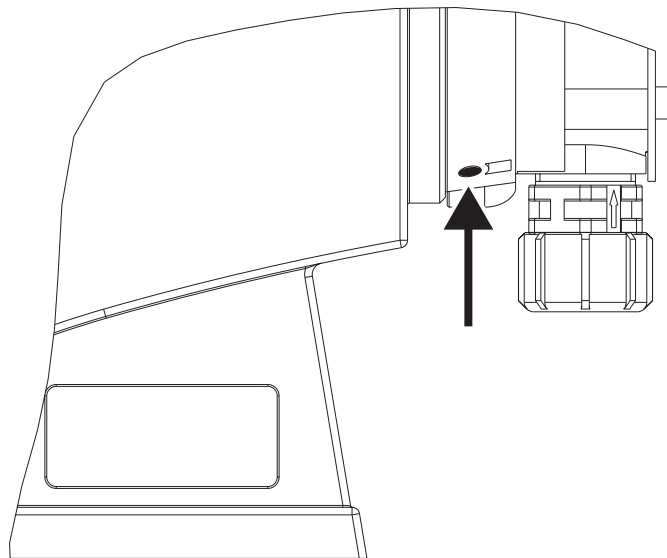
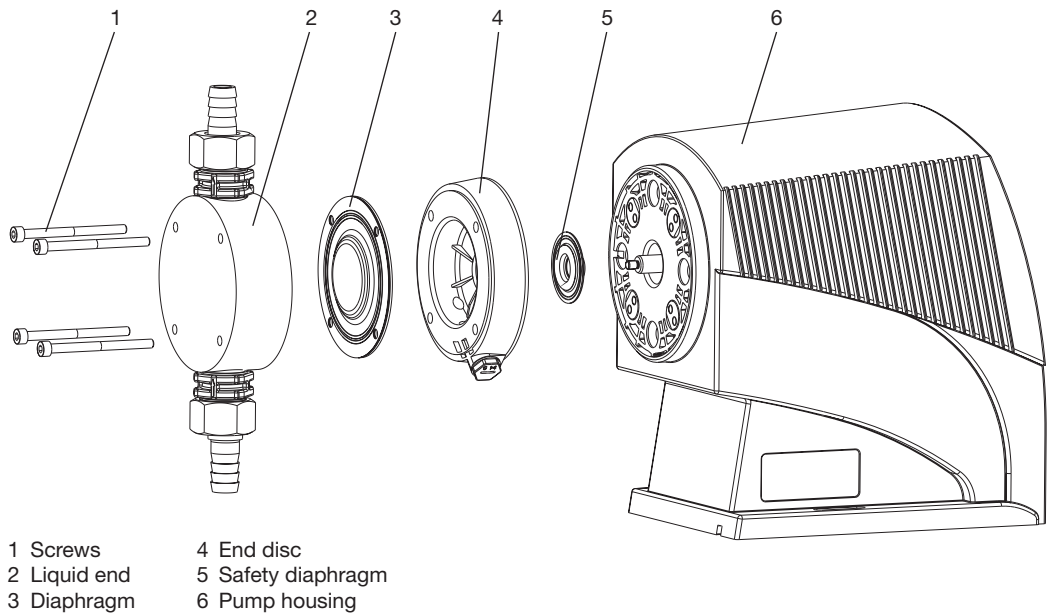

Fig. 25 Leakage hole
Fig. 26
- ▶ Check the entire delivery unit for leakproofness (in particular the leakage hole! see Fig. 25)
- ▶ Remove the screws (1).
- ▶ Remove the liquid end (2) with the screws (1) from the pump (see Fig. 26).
- ▶ Reposition the liquid end (2) with the screws - the screws (1) should be positioned in the holes of the diaphragm (3) but not in the pump housing!
- ▶ Grab the pump housing (6) with one hand and clamp the diaphragm (3) with the other hand between the liquid end (2) and the end disc (4). Loosen the diaphragm (3) from the drive axis by slightly and jerkily turning the liquid end (2) and the end disc (4) clockwise
- ▶ Remove the liquid end (2) with the screws (1) from the diaphragm (3) and unscrew them fully from the drive axis.
- ▶ Remove the end disc (4) from the pump housing (6)
- ▶ Check the condition of the safety diaphragm (5) and replace, if necessary.
- ▶ Push the safety diaphragm (5) onto the drive axis only until it is flush with the pump housing (6) - do not push further!
- ▶ Screw on the new diaphragm (3) onto the drive axis up to the stop by way of trial - this must be successful, otherwise the pump will not dose precisely later!
- ▶ When the pump is running, slowly turn the diaphragm (3) clockwise until the 4 holes of the diaphragm are flush with those of the pump housing (6)
- ▶ Hold the diaphragm (3) in this position, set the stroke length to 0%, and stop the pump.
- ▶ Unscrew the diaphragm (3) again.
- ▶ Position the end disc (4) on the pump housing (6).
- **The leakage hole must show to the bottom in the later installation position of the delta® (see Fig. 25)!**
- **Position the end disc (4) directly in the correct position on the pump housing (6)! Do not twist the end disc on the pump housing to prevent that the safety diaphragm (5) distorts!**
- ▶ Insert the diaphragm (3) into the end disc (4).
- ▶ Hold the end disc (4) and tighten the diaphragm (3) clockwise until it is seated firmly (the turning resistance of the return spring becomes noticeable).
- **Do not excessively turn the diaphragm (3)!**
- **The end disc (4) must remain in its position to prevent that the safety diaphragm distorts!**
- ▶ Position the liquid end (2) with the screws (1) onto the diaphragm (3) and the end disc (4) (the suction port must show to the bottom in the later installation position of the pump)
- ▶ Screw down the screws (1) and tighten crosswise (tightening torques see above)